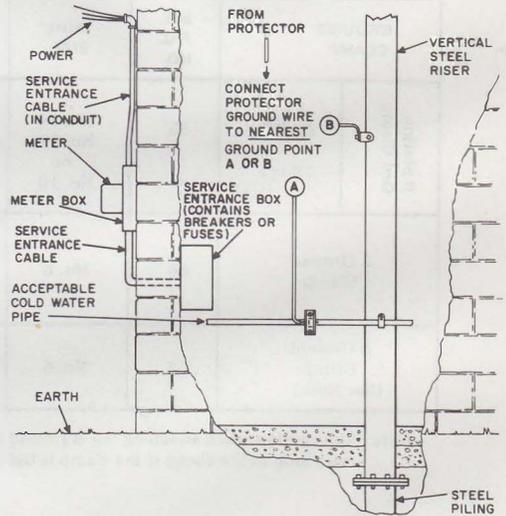

Fig. 47—Acceptable Water System or Building Ground (Power Service Not Grounded)
6.07 Telephone service may be installed where a power ground is not provided. However, the customer should be informed immediately of the need for a power ground and be requested to notify the telephone company when the ground has been provided. The procedure for notifying the customer shall be covered by local instructions. Station protectors installed where there is no power, or the power ground is inaccessible, should be grounded as shown in Fig. 47 or 48.